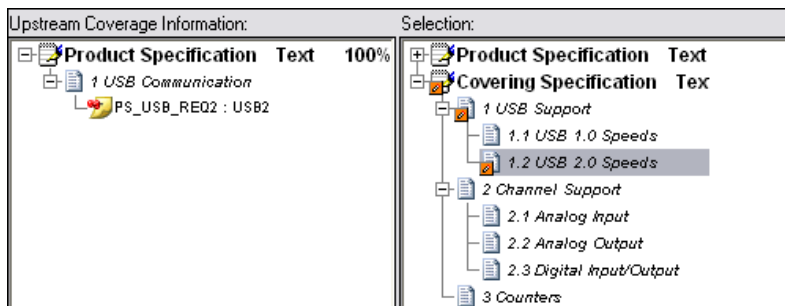

Figure 3-7. Covering Specification Document After Reload
14. Return to Requirements Gateway, which prompts you with a dialog box indicating that the Covering Specification document was modified. Click **Yes** to reload the file. Requirements Gateway analyzes the new document and updates the view, as shown in Figure 3-7.